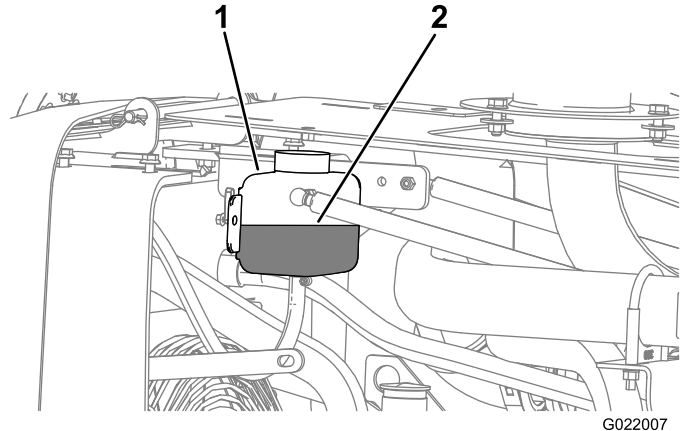
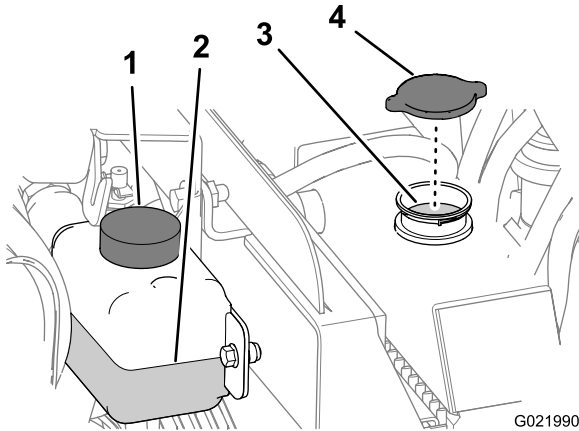

Figure 136
Figure 137
4. Check the coolant level in the reservoir (Figure 136).
4. Remove the radiator cap from the filler neck of the radiator and check the coolant level (Figure 136 and Figure 137),
5. If the coolant level is low, add coolant until the level is up to the bottom of the filler neck (Figure 137).
6. Install the radiator filler cap, ensuring that it is tightly sealed (Figure 137).
4. Remove the radiator cap (Figure 137).
2. Remove the radiator cap (Figure 137).
4. Install the radiator cap (Figure 137).